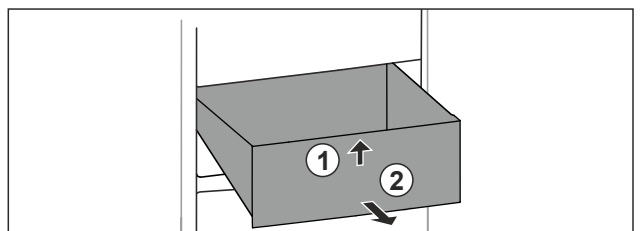

Fig. 96
- ▶ Lift up drawer at the front. Fig. 96 (1).
- ▶ Remove drawer to the front. Fig. 96 (2).